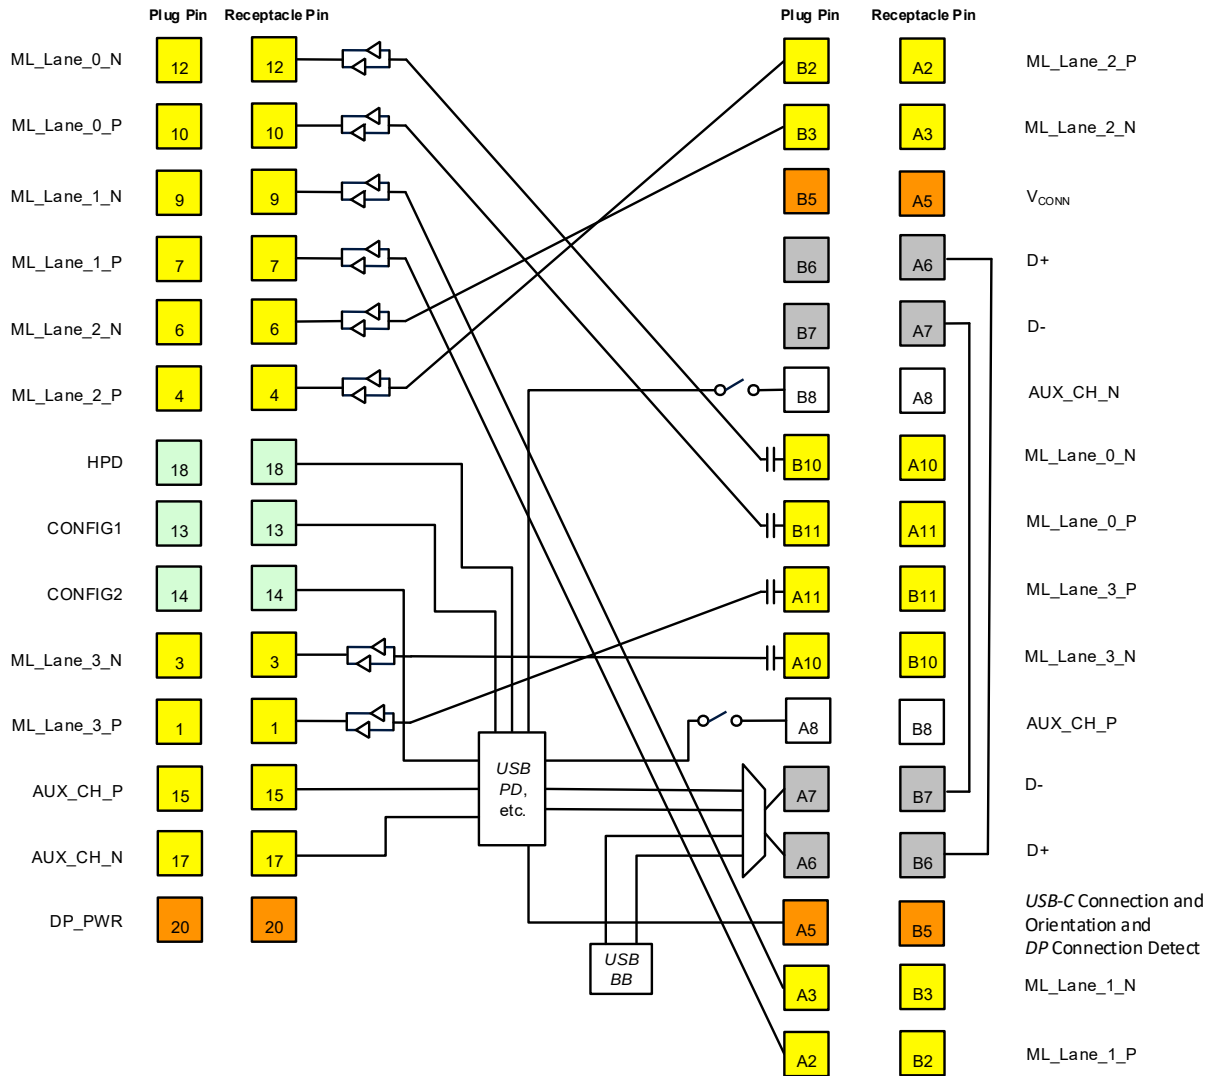

Figure 4-36: Scenario 5b Full-size DP Adapter Wiring – Flipped Plug Orientation
- Figure 4-36 illustrates this use for a full-size *DP* receptacle when the *USB-C* plug is inserted in flipped orientation